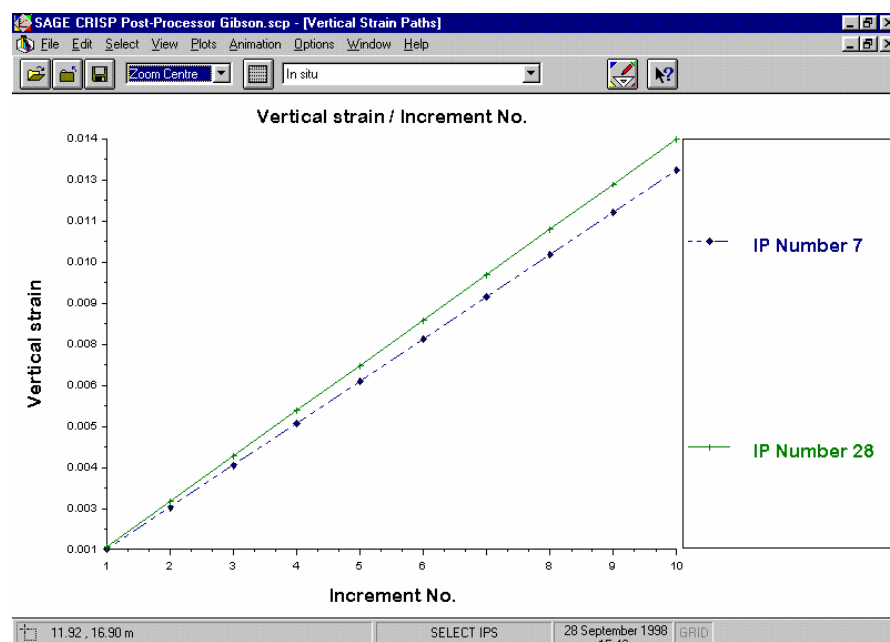

Figure 4-34: Graph Showing Strain Paths for Two Integration Points
- Step 7** Click on **OK** to exit, once you have finished. The graph displayed should look similar to Figure 4-34. You can configure the way the graph looks (axis labels, titles and legend) by double-clicking on the graph window and changing the set-up in the Graph Configuration dialogue box.